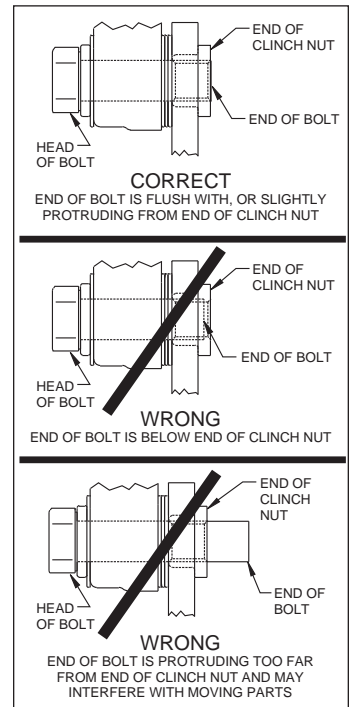

Figure 4. Clinch Nut Engagement Diagram
CAUTION: All mounting bolts must fully engage insert nuts, Figure 4. Be sure to check that all bolts are either flush or protruding through flanged side of insert nut after shimming. Rear hole refers to the part of the spindle that would be facing the back of the vehicle, front is facing the front of the vehicle.
- Adjust by adding or subtracting shims (2) between the bracket and the spindle. Always use the same amount of shims on each of the two mounting bolts.
- **NOTE:** *The end of each bolt must be flush with or slightly protruding from the head of the clinch nut, as shown in Figure 4.* If necessary place spare shims (2) between washer (19) and caliper mounting ear to achieve the proper clinch nut engagement. Once the caliper alignment and clinch nut engagement are correct, remove the caliper mounting bolts, washers and caliper.